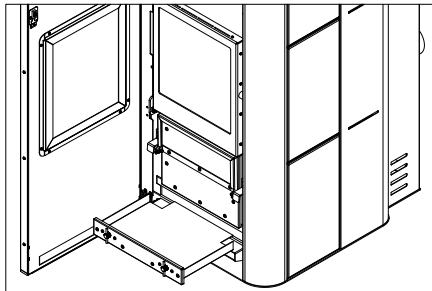

FIGURE 3
- **Clean the smoke conveyor compartment (fig.3)** - The boiler is fitted with a removable ash pan designed to collect any soot and ash build-up.